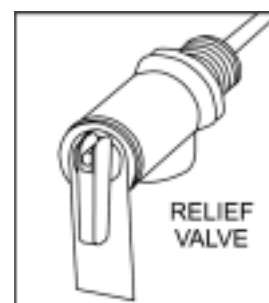

Fig. 6-4
4. Pull the handle of the pressure-temperature relief valve (Fig. 6-4) straight out and allow water to flow until it stops.